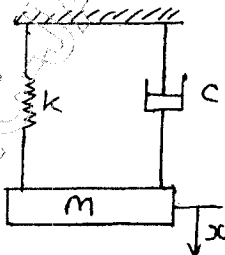

Fig. Q3 (a)
- 3 a. Find the equation of motion for the system shown in Fig. Q3 (a), when (i) Damping ratio=1.0 (ii) damping ratio=0.3 and (iii) Damping ratio = 2.0, if the mass 'M' is displaced by a distance of 3 cm and released. (12 Marks)